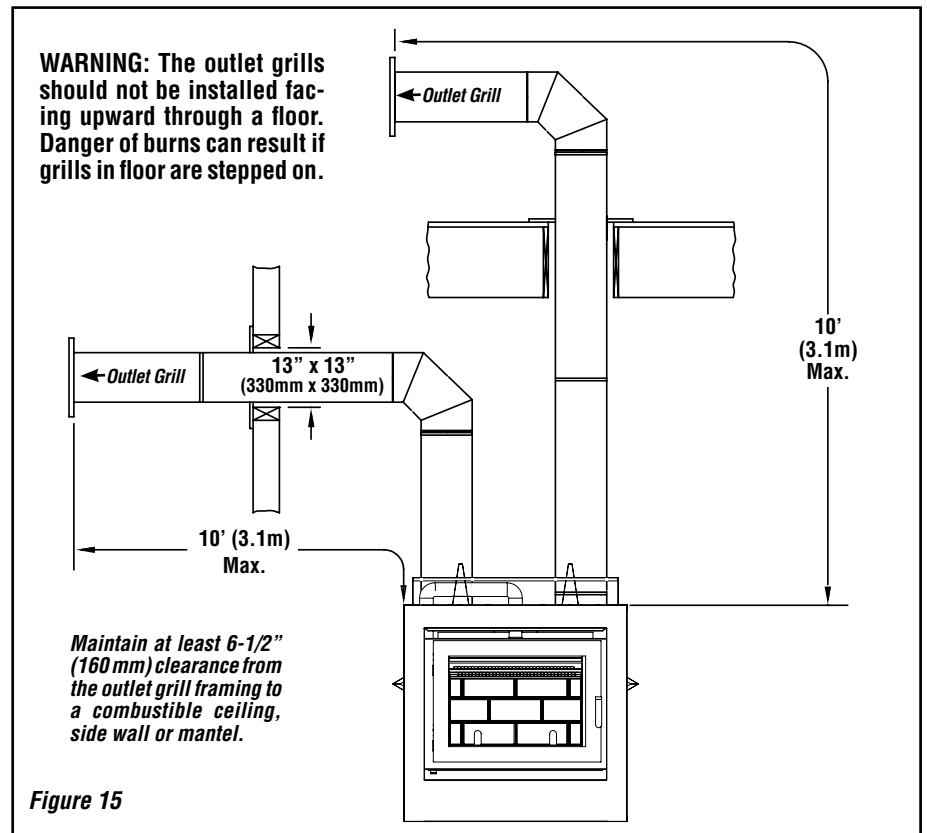

Figure 15
- Maximum length** See Figure 15
When installing the double outlet system, the hot air outlets can be installed in the same room as the fireplace, or one or both of the outlets can be installed in adjacent or upper rooms. Installing the ducts at different elevations will tend to exhaust more heat out of the higher outlet (Figure 15).